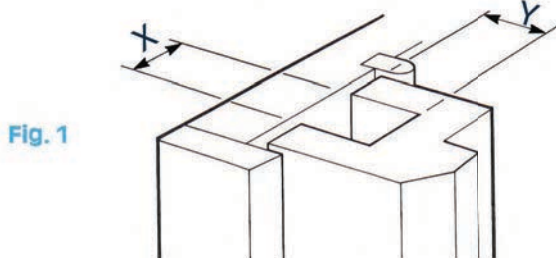

Fig. 1
- Grooves to house balances can be in either frame jambs or in sash stiles, rounded or square and must be of minimum dimensions shown (Figs 1 & 2).